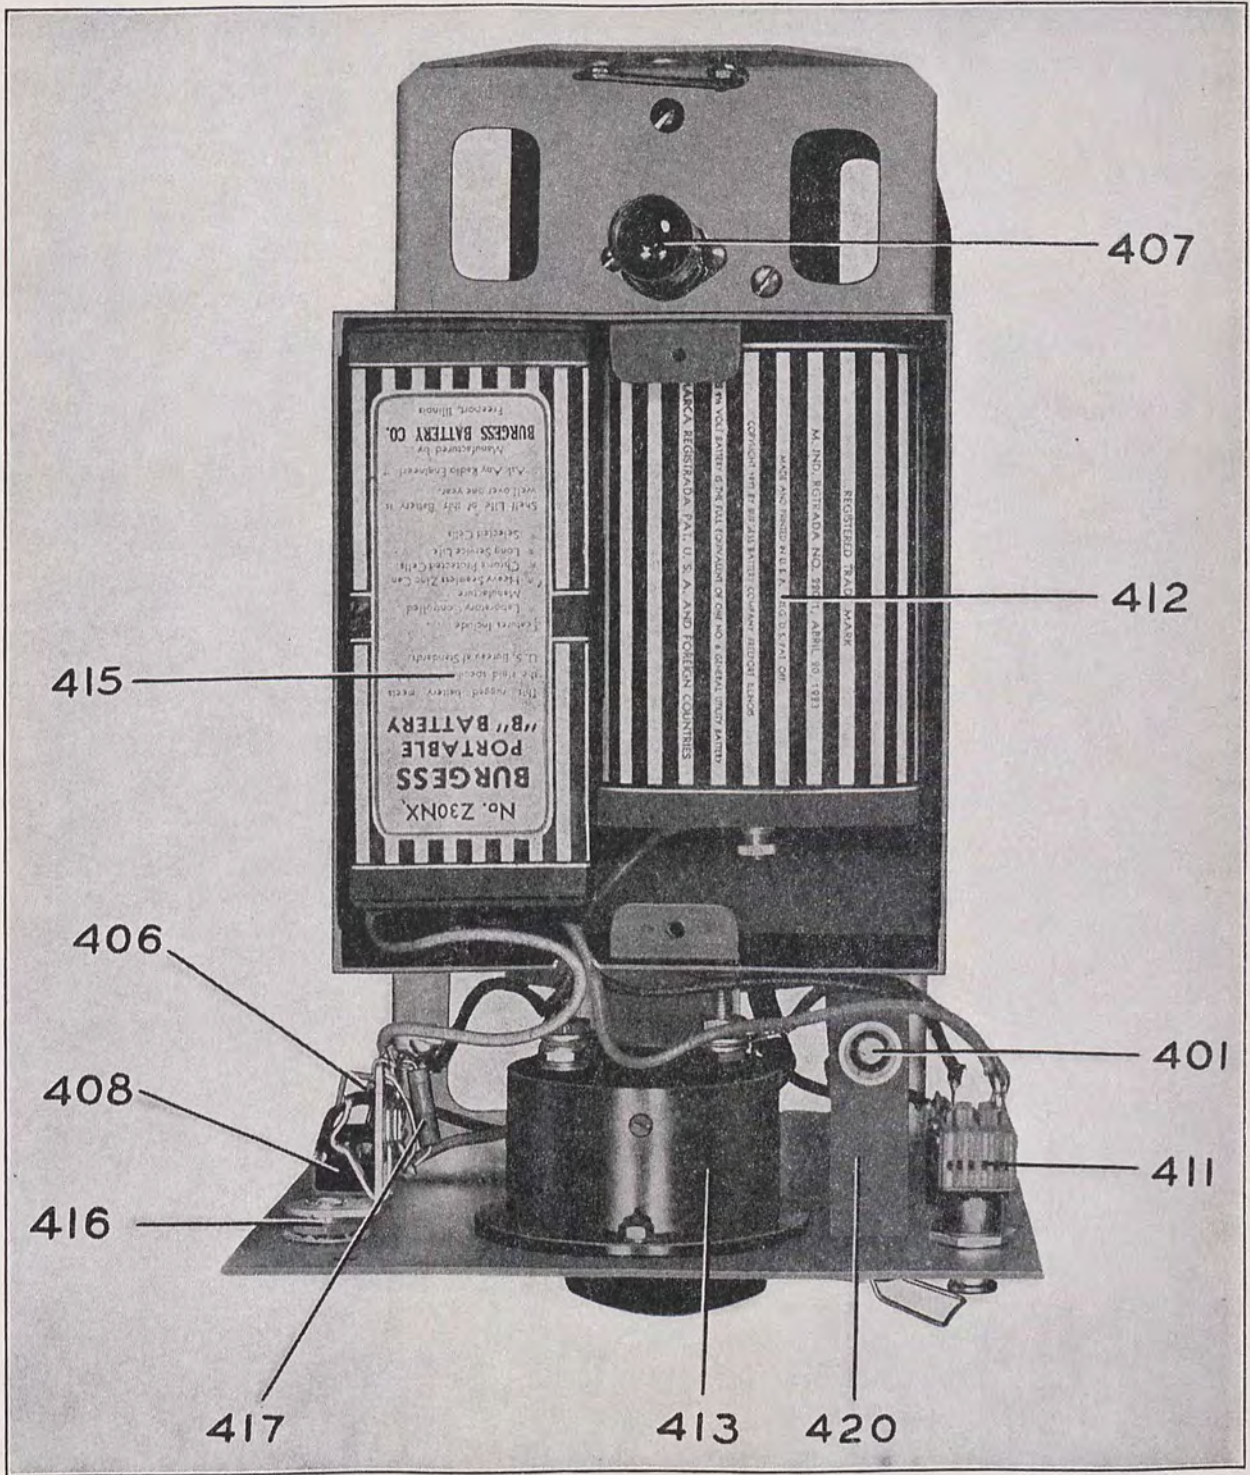

FIGURE 4—FREQUENCY METER BC-906-C, TOP VIEW, CASE REMOVED
- f. Insert Battery BA-35 into the battery box with the terminals toward the front of the meter as shown in Figure 4.
- i. Slide Battery BA-53-A edgewise into the battery box (in the position shown in Figure 4). Do not force. If it is necessary to force Battery BA-53-A into place, then Battery BA-35 has not been correctly installed.